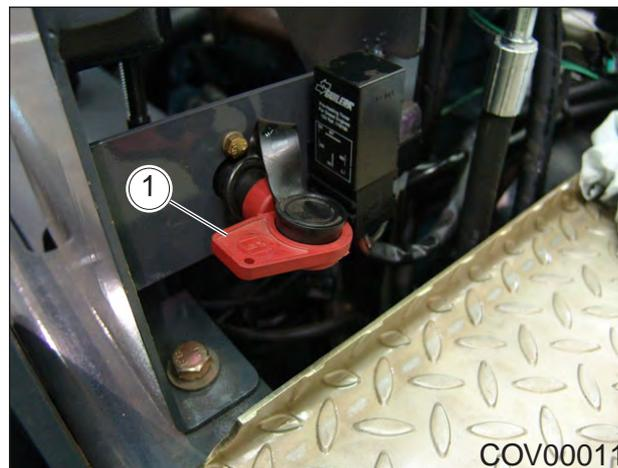

Figure 4.7 - Battery Isolator
The battery isolator; Figure 4.7, is both a maintenance aid and an anti-theft and vandalism device. It has a removable key 1.